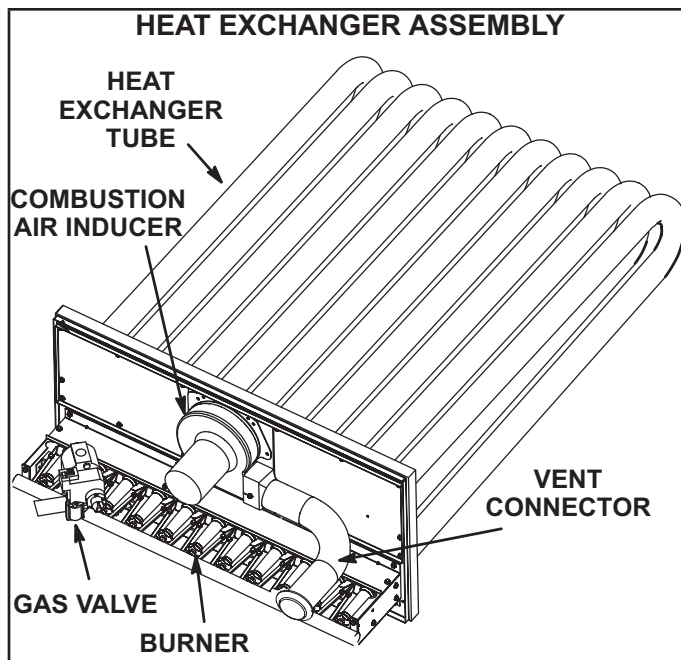

FIGURE 40
- 3 - Remove and retain screws securing combustion air inducer to flue box. Remove vent connector. See FIGURE 40.